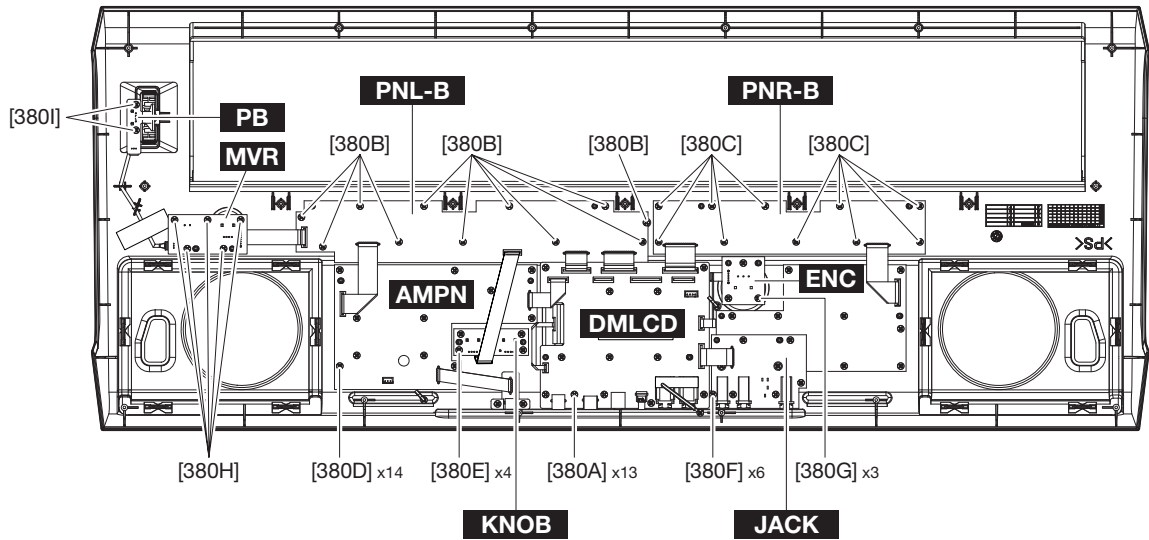

Fig.2
2. Remove the 13 screws [380A]. The DMLCD circuit board can then be removed. (Fig.2)
1. Remove the 11 screws [380B]. The PNL-B circuit board can then be removed. (Fig.2)
1. Remove the 10 screws [380C]. The PNR-B circuit board can then be removed. (Fig.2)
1. Remove the 14 screws [380D]. The AMPN circuit board can then be removed. (Fig.2)
2. Remove the 4 screws [380E]. The KNOB circuit board can then be removed. (Fig.2)
1. Remove the 6 screws [380F]. The JACK circuit board can then be removed. (Fig.2)